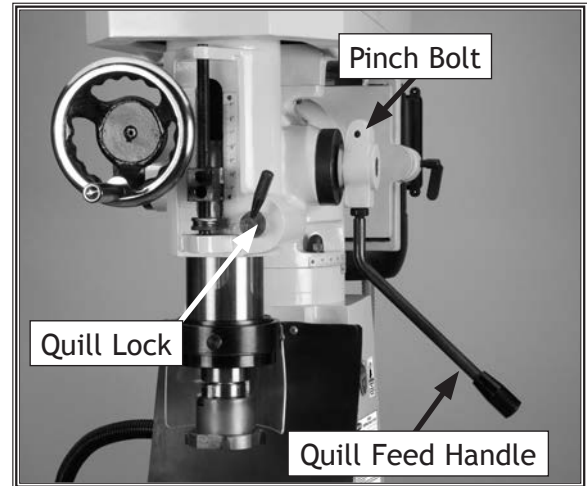

Figure 20. Quill feed controls.
The quill feed is controlled by the quill feed handle shown in **Figure 20**. The handle allows the mill to operate as a drill.
1. Pull the quill feed handle (see **Figure 20**) forward to feed the quill down towards the workpiece. The quill feed handle is spring loaded to assist in returning the handle to the upmost vertical position.
2. Lock the quill in place at any depth by tightening the quill feed handle lock shown in **Figure 20**.